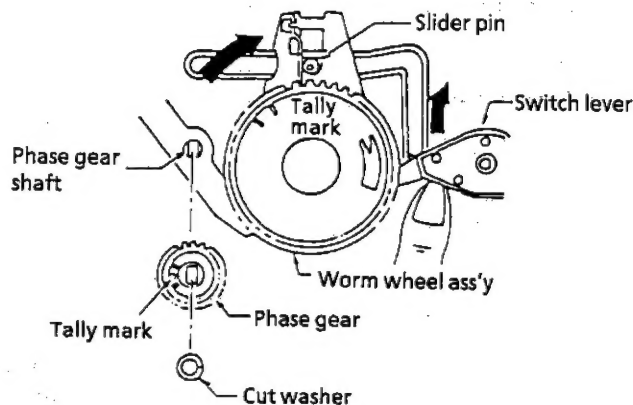
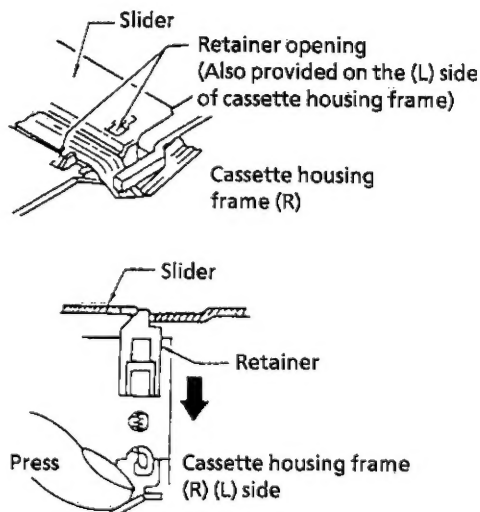

Figure 1-7.
Figure 1-8.
5. Place the slider pin just above the worm wheel assembly (Figure 1-7). (The retainer of the slider is locked at two positions. So unlock it as in the Figure 1-8.)
6. Pull out the worm wheel assembly toward you pressing the switch lever upward. (Figure 1-7)